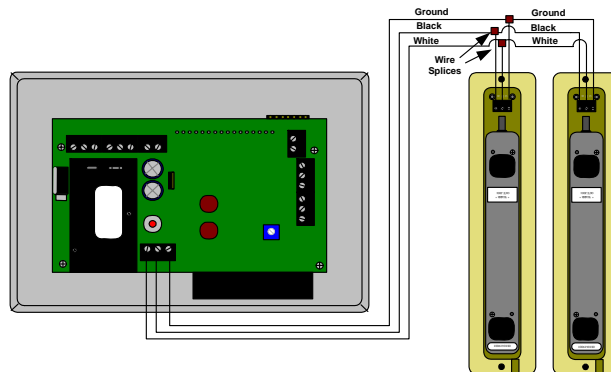

Figure 7-4 Advantage 1000DE to Two Scepter® Antenna Connections
**Connecting two SCP Part #699 Scepter® Antennas:** Use the SCP Part #429 cable provided with the Advantage 1000DE kit. Connect the #699 antenna to the Advantage 1000DE panel as shown in Figure 7-4.